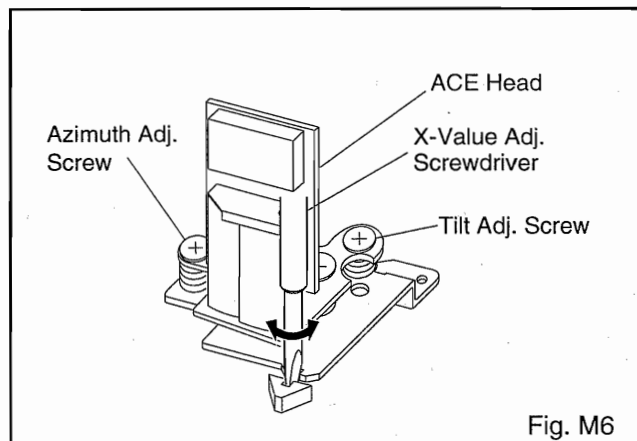

Fig. M6
4. If creasing or snaking is apparent, adjust the Tilt Adj. Screw of the ACE Head. (Fig. M6)
4. Use the X-Value Adj. Screwdriver so that the PB FM signal at J101 (V-ENV) is maximum. (Fig. M6)
3. Adjust Azimuth Adj. Screw so that the output level on the AC Voltmeter or the waveform on the oscilloscope is at maximum. (Fig. M6)